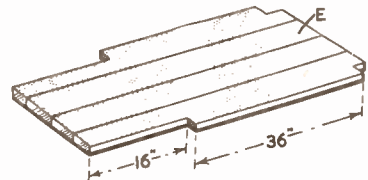

Fig. 3
The pieces (E) forming the shelf for the pots are 54ins. long and 6ins. wide. The two outside pieces are cut away to a depth of 2ins., as shown in Fig. 3, to fit round the legs. Nail these pieces to the lower rails (B).